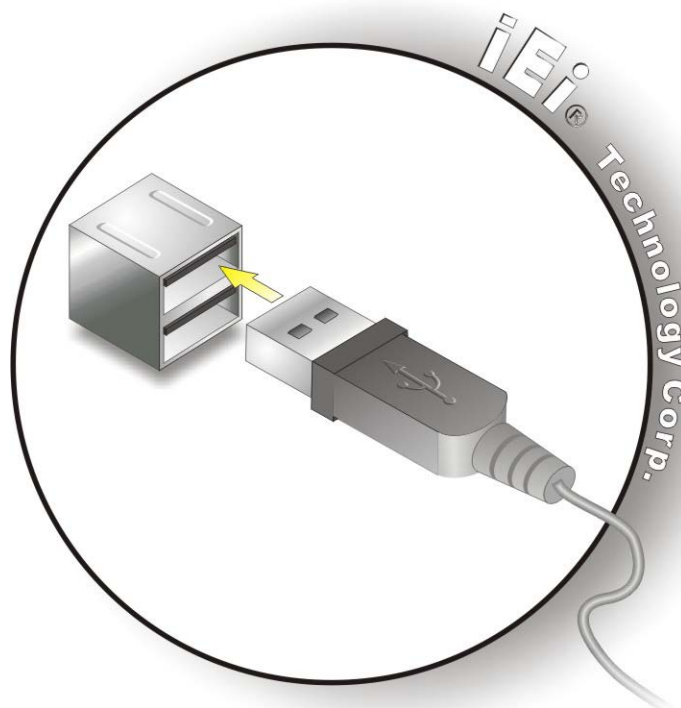

Figure 4-29: USB Device Connection
Step 2: Align the connectors. Align the USB device connector with one of the connectors on the bottom panel. See **Figure 4-29**.